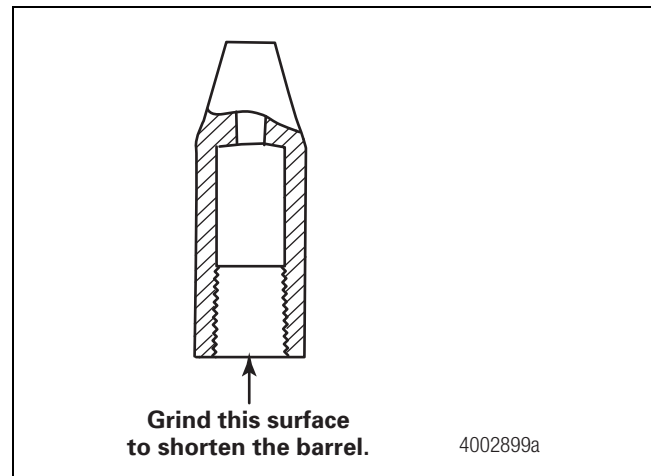

Figure 8.9
- B. Grind the bottom of the barrel as needed. Figure 8.9.